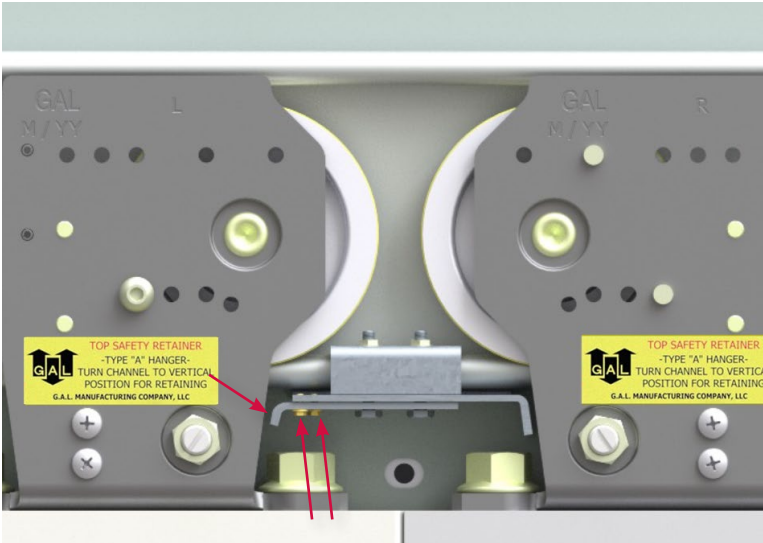
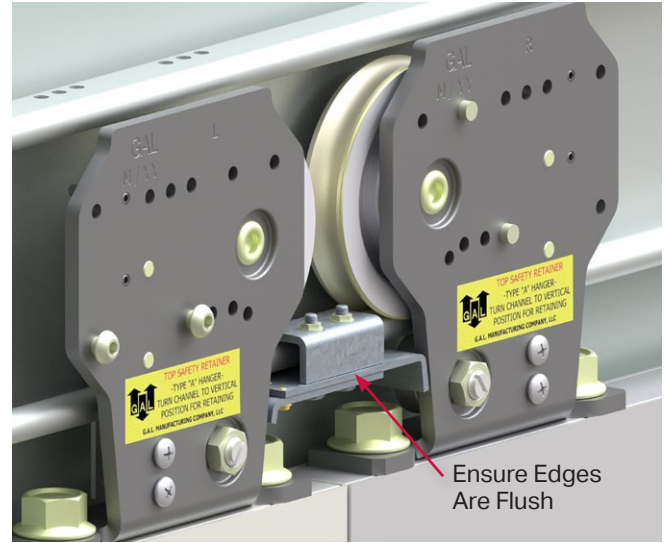

Figure 17: Set Left Side of Stop
Figure 18: Front Edge of Center-stop
6. Loosen the bottom nuts and slide the left stop up against the left sheave as shown in **Figure 17**. Ensure that the front edges of the bottom pieces are flush when the bottom nuts are tightened down as shown in **Figure 18**.